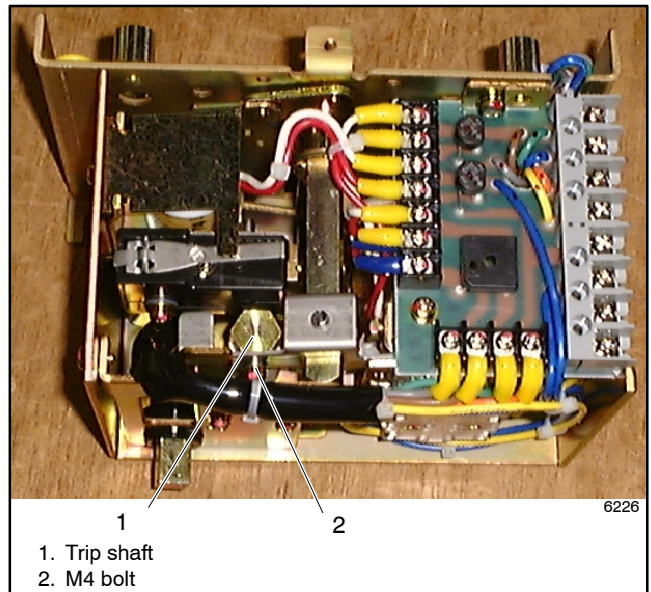
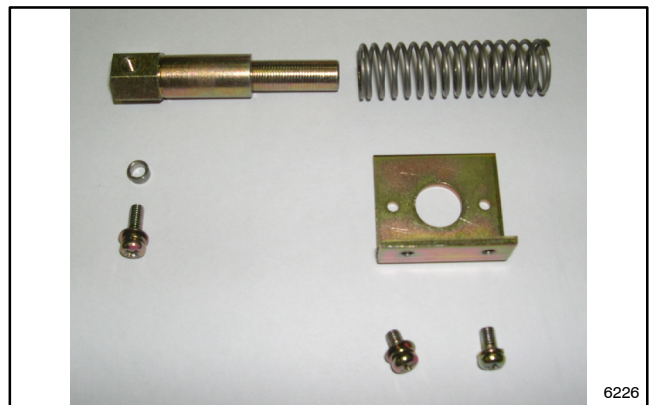

Figure 8-25 Trip Shaft Location
Figure 8-26 Trip Shaft Parts
4. The trip shaft is spring-loaded. Hold the shaft securely while removing the trip shaft bolt. See Figure 8-25. Remove the M4 bolt with ring, trip shaft, spring, and L-shaped bracket. See Figure 8-26. Keep the parts for reassembly later.